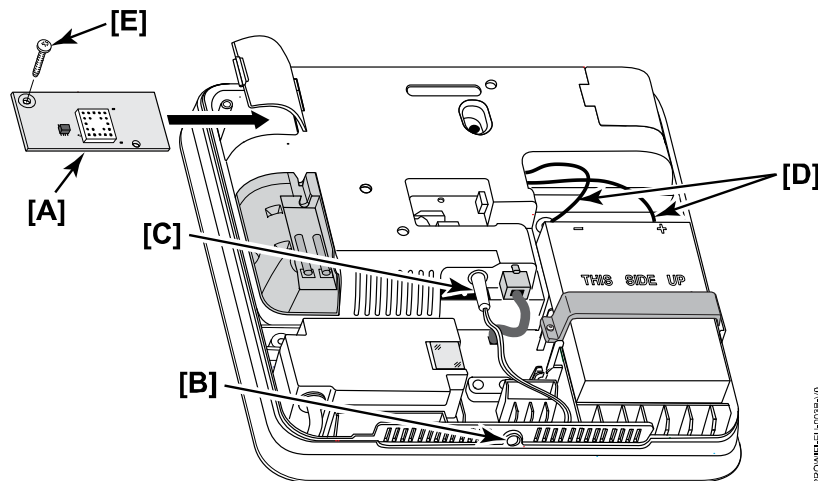

Figure 1. Installing the Module
Install the module **[A]** as follows (figure 1):
3. Insert the module into the slot on the left side of the control as shown in Figure 1 and ensure the receptacle is securely seated on the edge connector.